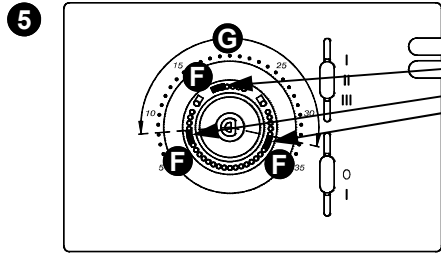

Fig. 6: Vedere paragrafo "BLOCCO MANOPOLA" a pagina 8 - See the "KNOB LOCK" paragraph on page 8
- 5** Remove the mechanical pins from the thermostat base and insert them in the cover to reduce the knob's field of rotation (see example in Fig. 6 and read the "knob lock" paragraph). The third pin at the top is a spare.
- 2.** Position the mechanical pins as shown in the example in Fig. 6 (**F**). The field of rotation is, in this way, reduced as in the arc shown in **G** in Fig. 6.